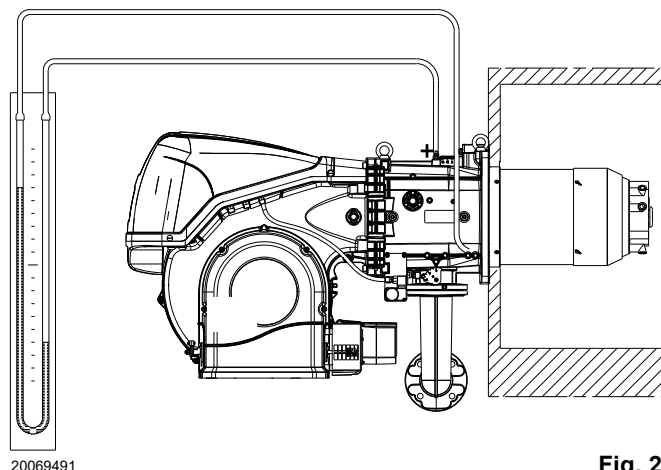

Fig. 28
- Fit a U-type pressure gauge or a differential pressure gauge (Fig. 28), with socket (+) on the gas pressure of the pipe coupling and (-) in the combustion chamber. The manometer readings are used to calculate MAX burner output using the Tab. J.